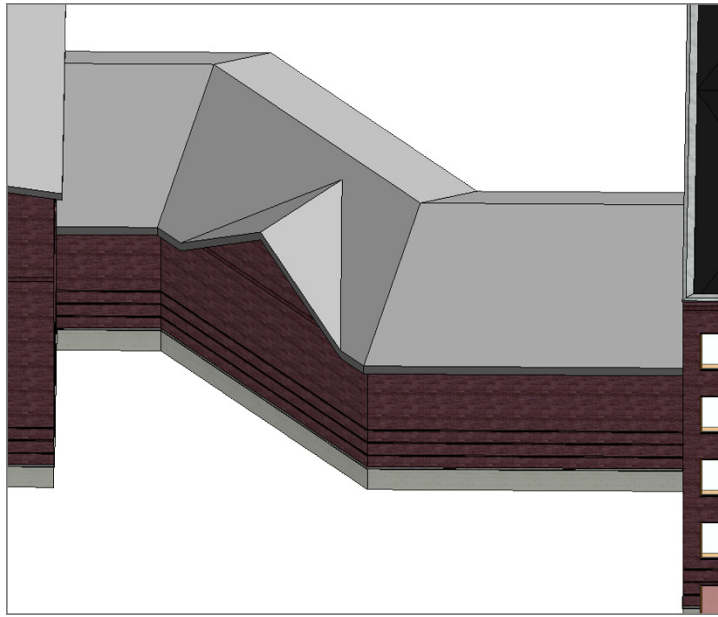

FIGURE 7.64: The completed roof dormer
10. Go to a 3D view to check out the dormer. It should look identical to Figure 7.64.